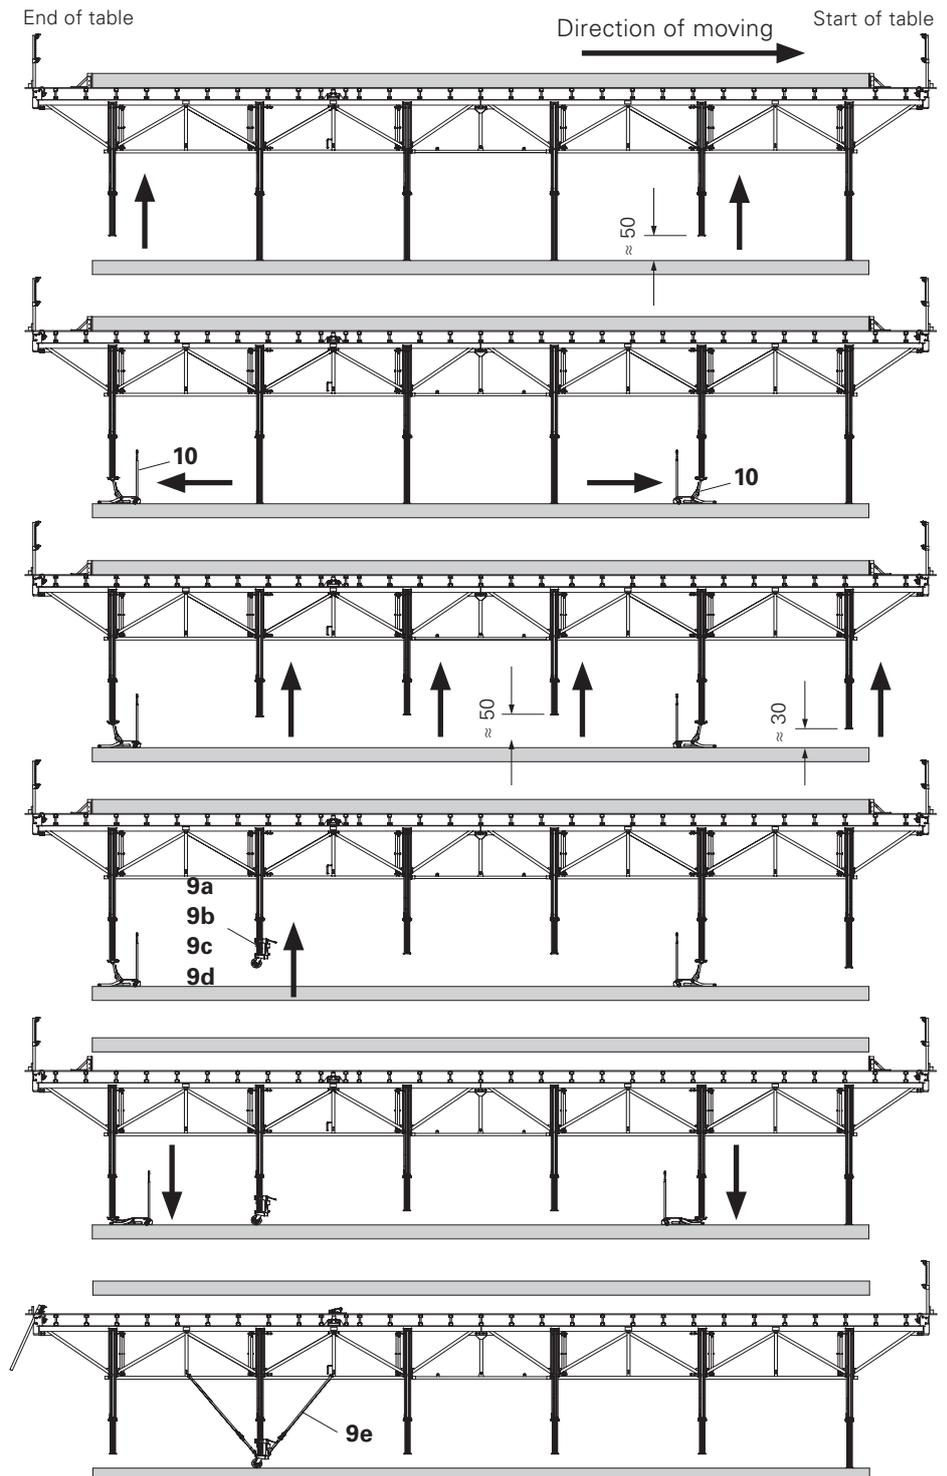

Fig. A5.03.1 - 6
1. Spindle the second prop (17) from the front and the last prop approx. 50 cm. (Fig. A5.03.1)